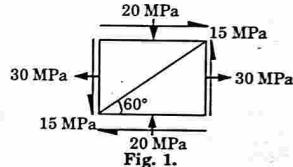

Fig. 1.
- Q. 6. At a point in a strained material, stresses are applied as shown in Fig. 1 find out the normal and shear stress on the oblique plane, principal stresses and principal strain.